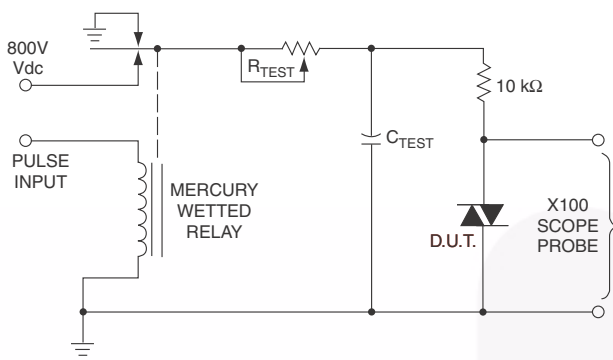

Figure 11. Static dv/dt Test Circuit
| dv/dt | Critical Rate of Rise of Off-State Voltage | $I_F = 0$ (Figure 11) ⁽²⁾ | 600 | 1500 | | V/ μs |
- This is static dv/dt . See Figure 11 for test circuit. Commutating dv/dt is a function of the load-driving thyristor(s) only.